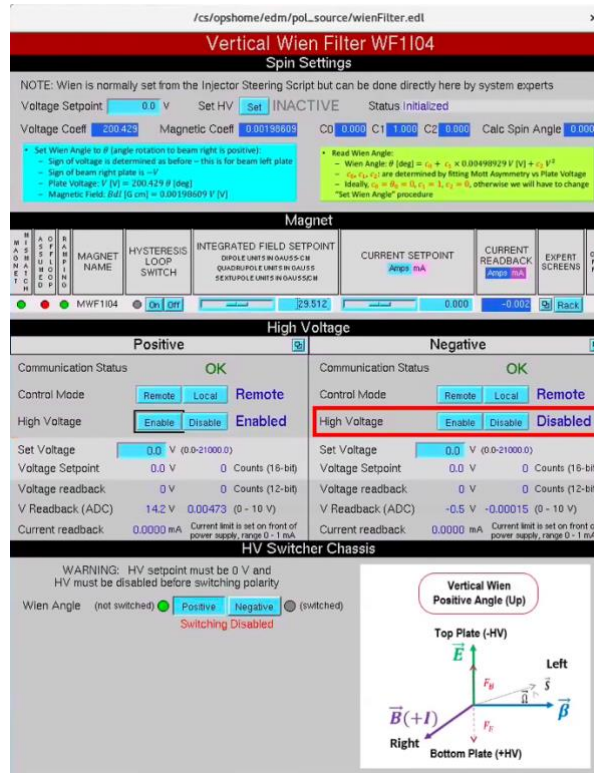

Figure 7. Wien filter expert screen with one of the HV supplies enabled, preventing the user from switching the polarity. Irrelevant areas are desaturated
4. Click HV enable in both Positive and Negative. A warning in red letters will be displayed: “Switching Disabled” see figure 7.